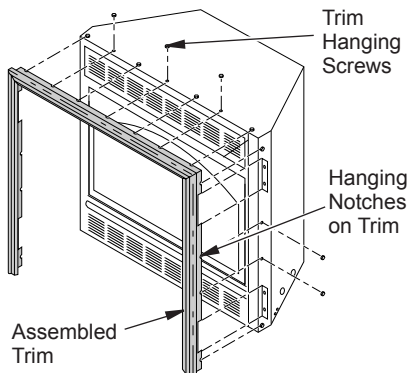

Figure 7 - Attaching Perimeter Trim to Fireplace
8. Tighten trim hanging screws (#10 x 6.25 shoulder) into holes in cabinets. Place the assembled trim onto fireplace cabinet. Align hanging notches on trim with hanging screws on side of fireplace (see Figure 7). Push trim firmly into place, sliding hanging notches over hanging screws.
10. Install perimeter trim after final finishing and/or painting of wall (see Figure 7, page 10).